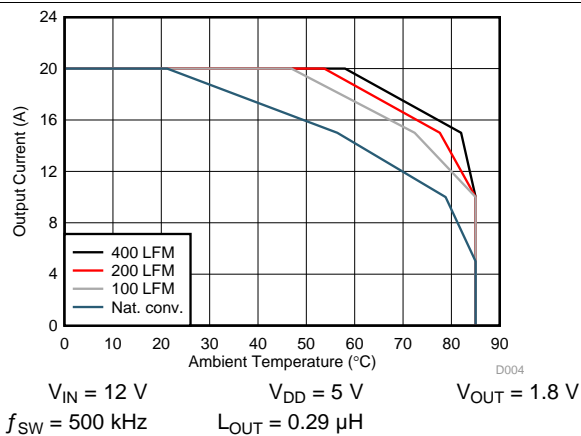
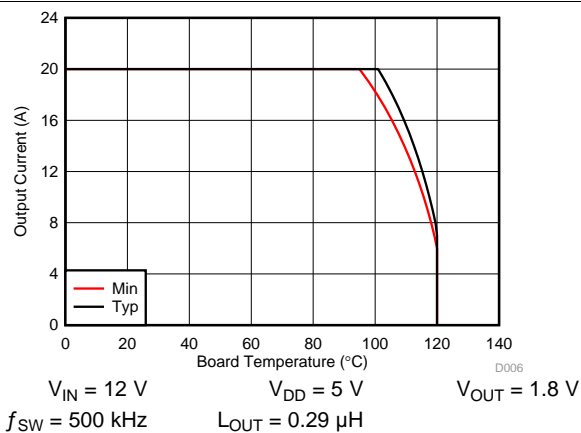

Figure 6. Safe Operating Area – PCB Horizontal Mount (1)
Figure 8. Typical Safe Operating Area (1)
The SOA curves in the CSD97394Q4M datasheet give engineers guidance on the temperature boundaries within an operating system by incorporating the thermal resistance and system power loss. Figure 6 and Figure 8 outline the temperature and airflow conditions required for a given load current. The area under the curve dictates the safe operating area. All the curves are based on measurements made on a PCB design with dimensions of 4.0" (W) x 3.5" (L) x 0.062" (T) and 6 copper layers of 1 oz. copper thickness.